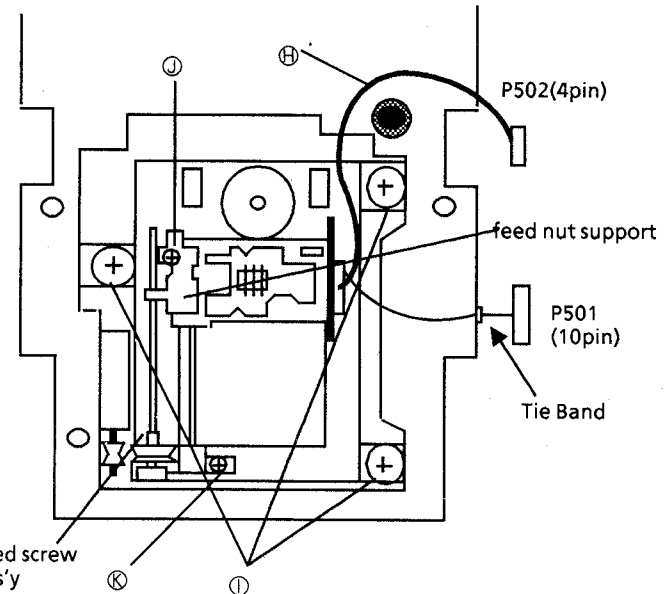

Fig.2
- 3) Remove the 2 screws (B) fastening the changer assembly.
- 4) Disconnect the connectors. (C)(D)(E)(F)(G)
- 5) Slide the changer assembly to arrow direction (I).
Wire (H) should be set as Fig.2.
4. Removing the turntable base (Fig.2)
5. Exchanging the pickup (Fig.2)